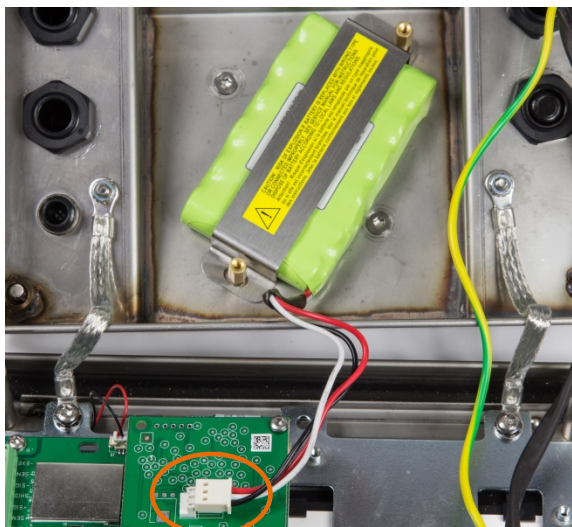

Figure 2-22: NiMH Battery Installed in the IND236
2. Position the battery in the enclosure and secure it in place using the bracket provided and two hexagonal stand-offs, as shown in Figure 2-22.
3. Attach the battery cable to the connector on the charging board, indicated in Figure 2-22.